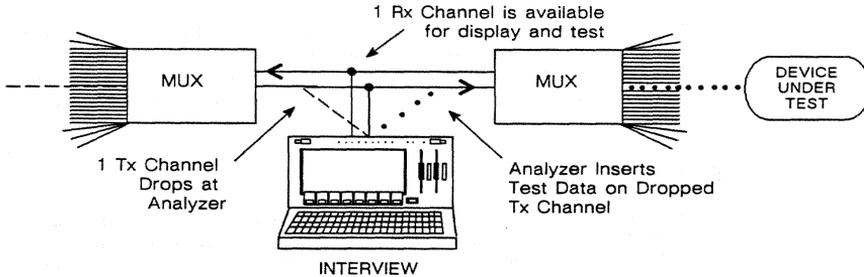

Figure 49-16 The INTERVIEW 7000 Series in drop-and-insert mode.
2. *Drop-and-insert mode.* This type of transmission (illustrated in Figure 49-16) is useful for testing a single channel over an active T1 circuit. If the user selects drop-and-insert mode, the INTERVIEW receives all 24 channels in both directions (left to right and right to left in Figure 49-16). The transmissions on 23 of the left-to-right channels are terminated and passed through (regenerated) outbound. The remaining channel is terminated, and higher-layer test data is inserted into the corresponding outbound channel. All the while, T1 protocol is maintained at the physical level. The INTERVIEW recalculates the correct CRC for the superframe. Data on the Frame Data Link is relayed without change. Drop-and-insert mode may be used in either direction, towards DTE or DCE. Statistics are maintained on the selected channel.
The INTERVIEW should be set up to *bridge* the data moving right-to-left in Figure 49-16. See the discussion of **BRIDGED** as a **Termination** option in Section 49.5(B).